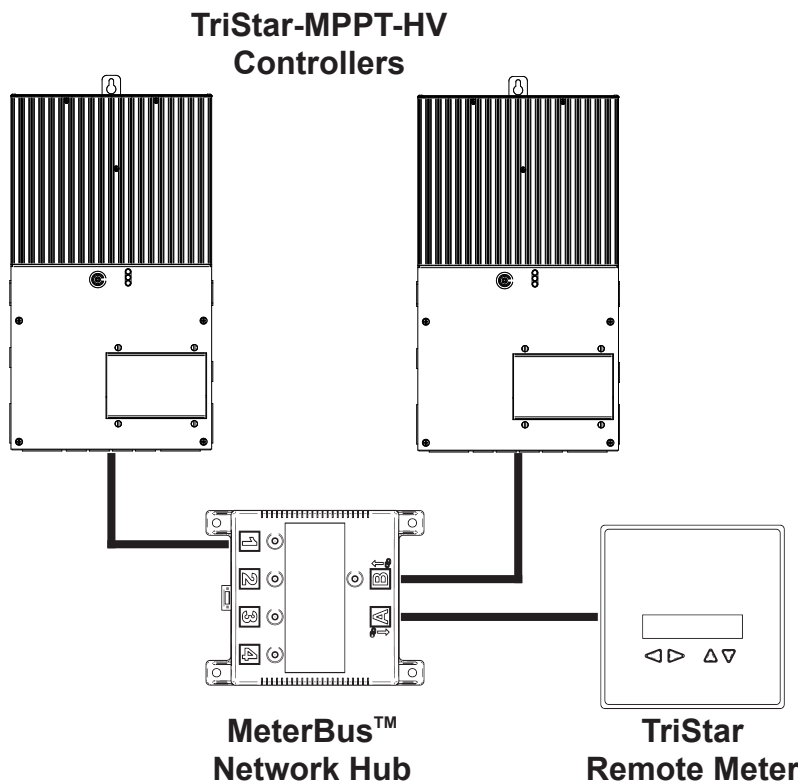

Figure 5-1. An example MeterBus network.
A MeterBus Hub (model: HUB-1) is required for MeterBus networks containing multiple TriStar MPPT 600V controllers. The ports on the hub are electrically isolated to prevent damage in the event of broken grounds or voltage differences between controllers. Figure 5-1 below shows an example MeterBus™ network with two (2) TriStar MPPT 600V controllers and a TriStar Remote Meter 2 (TS-RM-2).